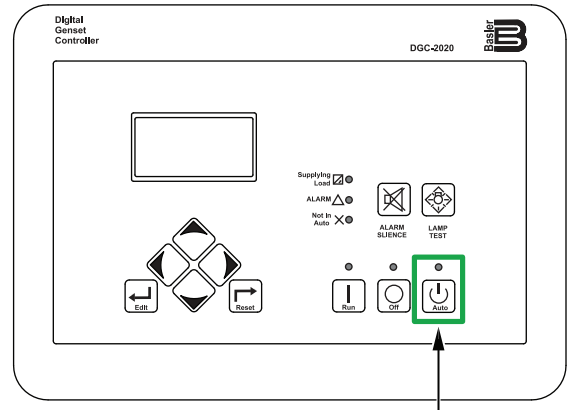

Figure 46. Digital Controller (Auto Button)
2. Press the **Auto button** (Figure 46) on the digital controller. When a start signal is received from the auto-start contacts, the engine will start automatically after the preheating process has completed.